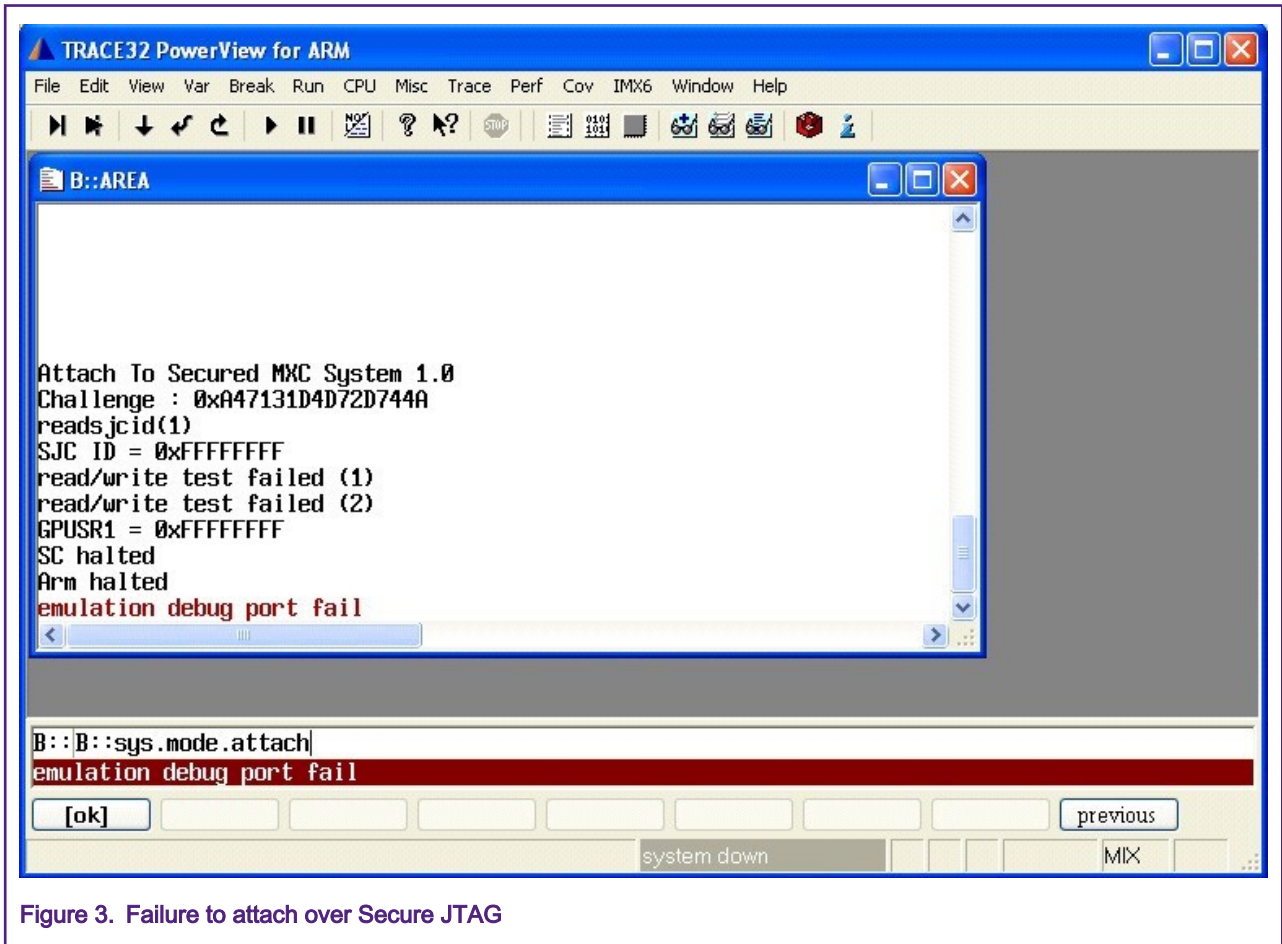

Figure 3. Failure to attach over Secure JTAG
- In order to ensure that i.MX 6/7/8M family SJC is operating in secure mode, edit the *calculateresponse.cmm* file and provide an incorrect response key. Re-run the attach script *attachimx.cmm*. The debug tool should fail to attach to the i.MX 6/7/8M family target over JTAG. Figure 3 shows a failure to attach over Secure JTAG.